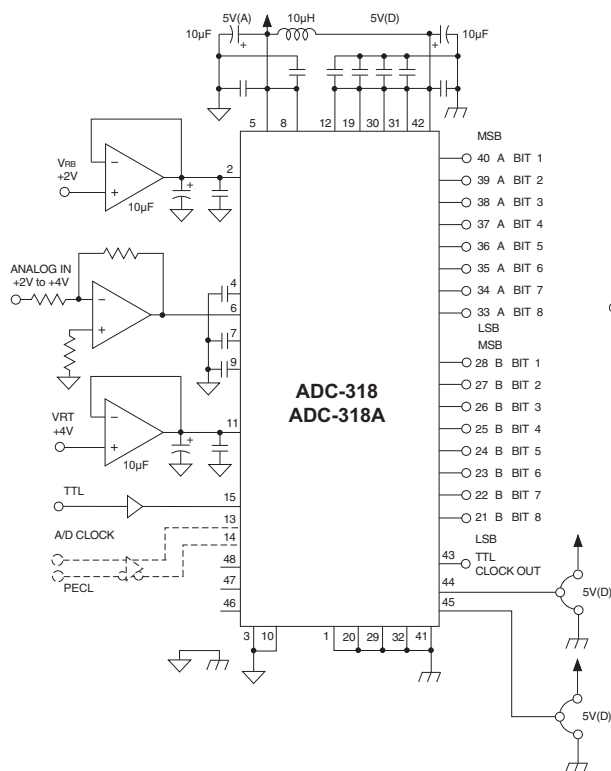

Figure 2-1: One Power Supply Operation (TTL, PECL)
- A/D CLK input and RSET/RSET inputs are TTL or ECL, PECL (Positive ECL) compatible. Pins are provided individually. TTL or PECL is available with +5V single power applied. ECL is available with ±5V dual power applied. The connections of -DVs (pin 1) and DGND3 (pin12) are different depending on the power supply mode used. Refer to Figures 2-1 and 2-2.